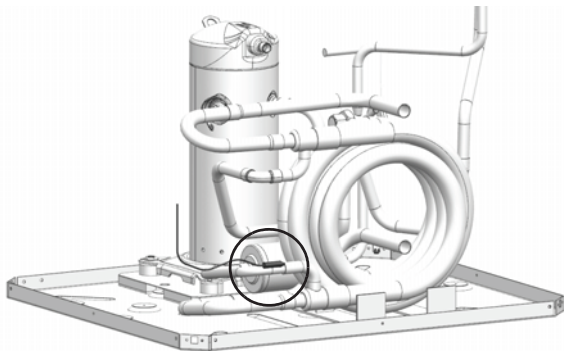

Fig. 29 — Water-Side Freeze Protection Sensor
- Evaporator freeze protection sensor, mounted between the thermal expansion device and the evaporator, monitors refrigerant temperature between the evaporator coil and thermal expansion valve. If temperature drops below or remains at freeze limit trip for 30 seconds, the controller will shut down the compressor and enter into a soft lockout condition. The default freeze limit trip is 30°F. (See Fig. 29 and 30.)
The default setting for the freeze limit trip is 30°F (sensor number 1); however this can be changed to 15°F by cutting the R30 resistor located on top of the DIP switch SW1. Since freeze sensor 2 is dedicated to monitor the evaporator coil it is recommended to leave the factory default setting on the board. The UPM board will constantly monitor the refrigerant temperature with the sensor mounted close to the condensing water coil between the thermal expansion valve and water coil. If temperature drops below or remains at the freeze limit trip for 30 seconds, the controller will shut the compressor down and enter into a soft lockout condition. Both the status LED and the Alarm contact will be active. The LED will flash three times the code associated with this alarm condition. If this alarm occurs 2 times (or 4 if DIP switch is set to 4) within an hour the UPM board will enter into a hard lockout condition. It will constantly monitor the refrigerant temperature with the sensor mounted close to the evaporator between the thermal expansion valve and evaporator coil as shown in Fig. 29. If temperature drops below or remains at the freeze limit trip for 30 seconds, the controller will shut the compressor down and enter into a soft lockout condition. Both the status LED and the Alarm contact will be active. The LED will flash three times the code associated with this alarm condition. If this alarm occurs 2 times (or 4 if DIP switch is set to 4) within an hour the controller will enter into a hard lockout condition.